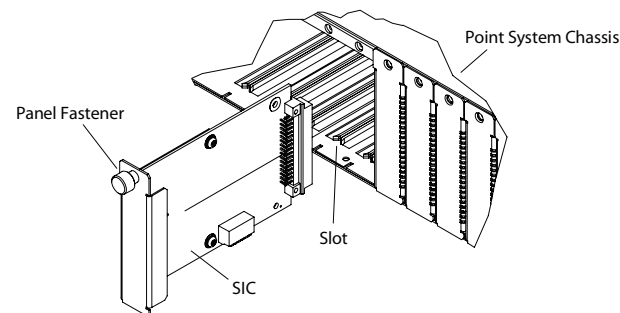

Figure 5: Install the CAPTF33xx-1xx SIC
1. Locate an empty installation slot on the Point System chassis. See Figure 5.